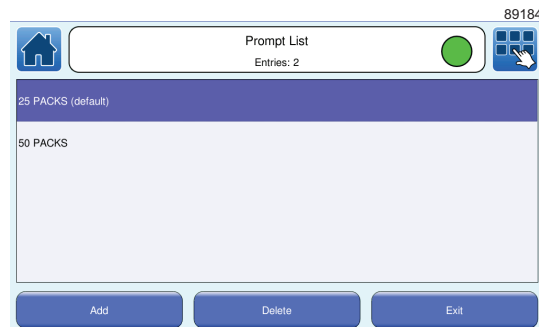

Figure 80. Prompt List screen
- **Default**—the text highlighted in the prompt list for the field defaults to the default prompt list item selected at the **Prompt List Entry** screen (see Figure 80 on page 76).